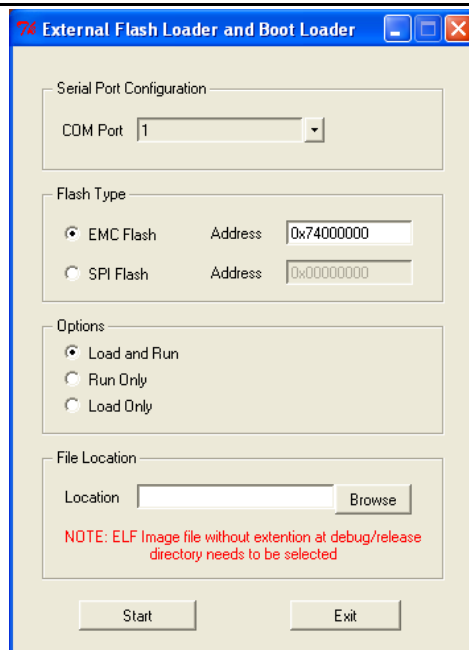

Figure 4-2 • GUI for Running MODBUS TCP Demo
- Double click the External Flash loader GUI tool (SmartFusion_Flash_Loader_V1.0.exe). This displays the GUI for running Modbus TCP demo (Figure 4-2).